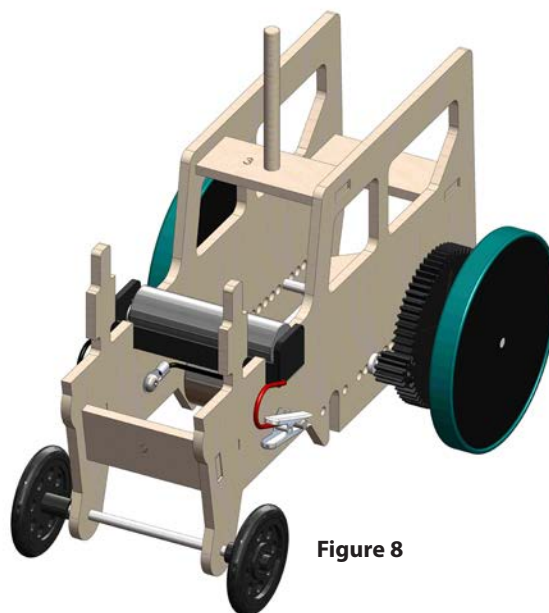

Figure 8
2. To make the tractor move, attach the red wire clamp to the screw coming from the red wire on the motor and attach the black wire clamp to the screw coming from the black wire on the motor. This will make the tractor move forward. To make it go in reverse, switch the clamps to the opposite screws (Figure 8).